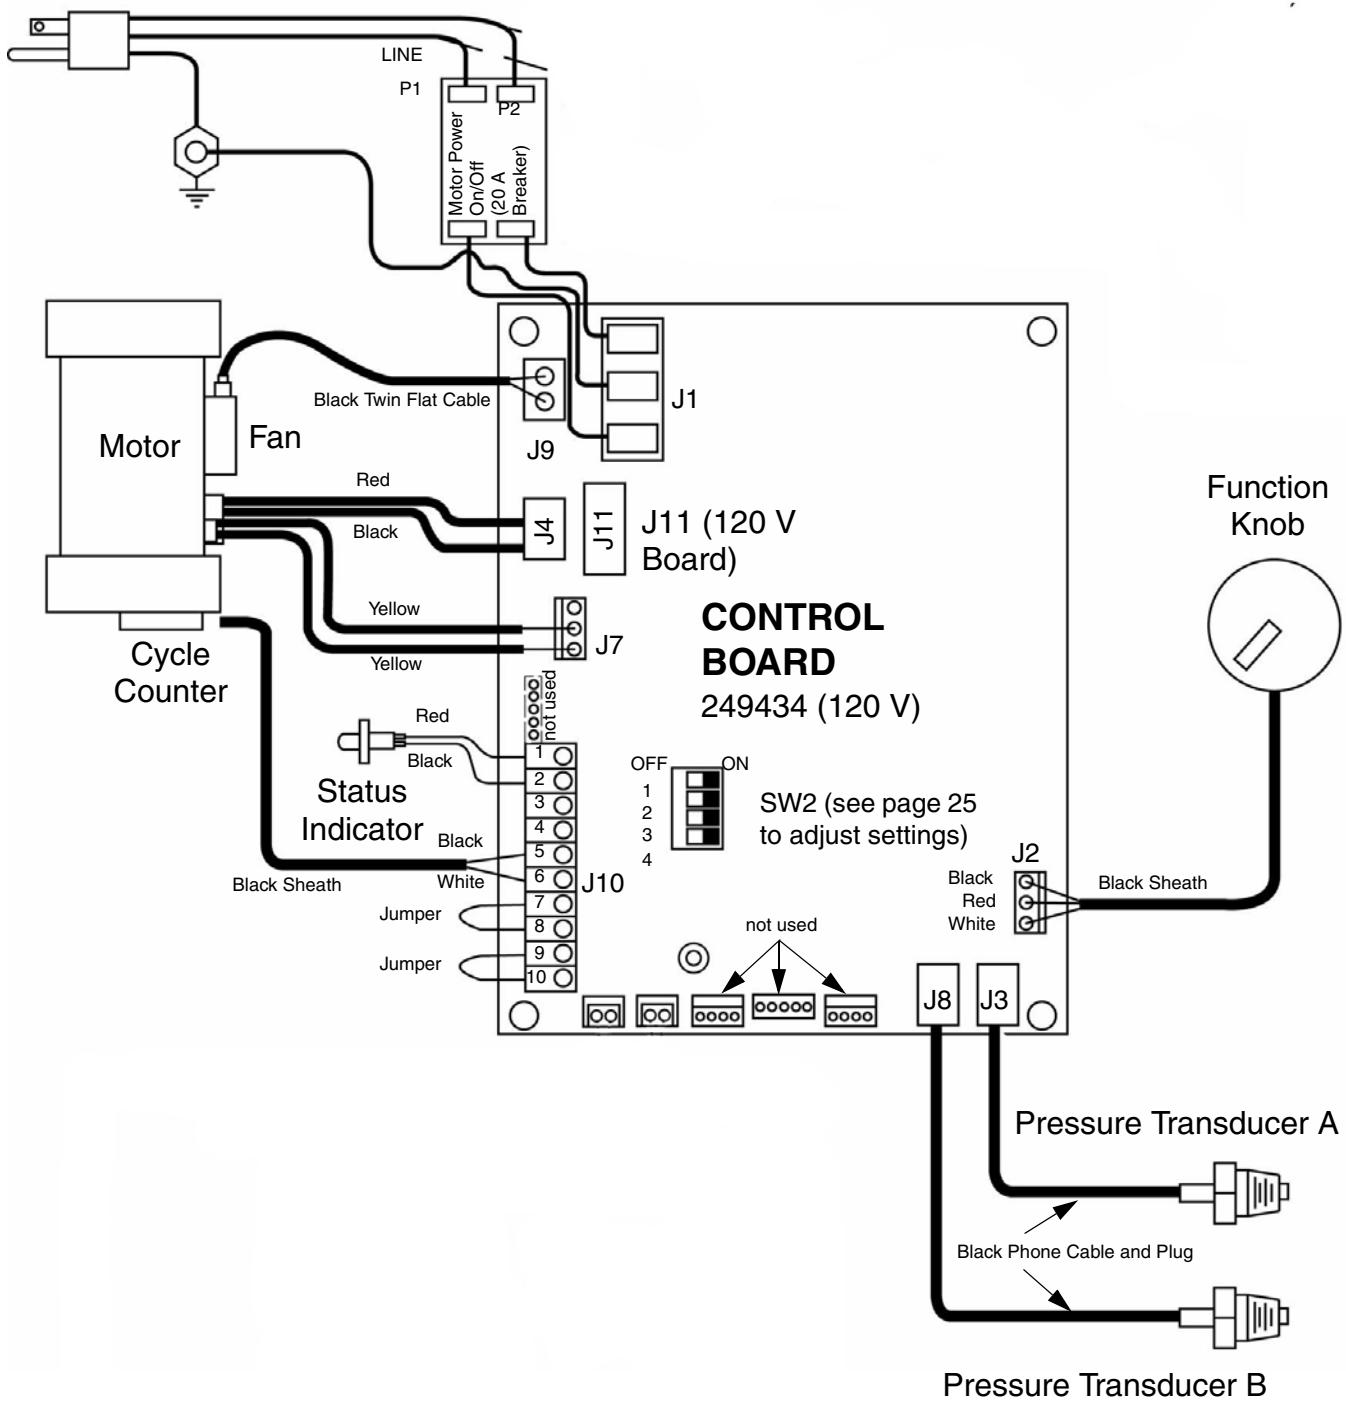

FIG. 58: Control Module Wiring Connections
NOTE: There is one red LED (D11) on the board. Power must be on to check. See FIG. 58 for location. Function is:
(see FIG. 58)**
4. Remove four screws (10) and control board cover (61) to expose the control board (12).
5. Disconnect transducer cables from J3 and J8 at board; see FIG. 58, page 34. Reverse A and B connections and check if status code follows the bad transducer, page 25.
7. Install new transducer (35) in manifold (33). Mark board end of cable with tape (red=transducer A, blue =transducer B).
8. Route cable under the electric motor and through grommet to control board (12).
9. Connect transducer cable at board; see FIG. 58, page 34.
1. Open recirculating valves, disconnect J4 or J11 from control board, see FIG. 58, page 34.
2. Place cart (1), with motor plate (8) installed, on bottom of the motor and fan. Feed motor cables through grommet.
3. Fasten motor to cart with four screws (10).
4. Fasten board to cart with seven screws (13). Connect all cables. See FIG. 58, page 34.
5. Install cover (61) with screws (10).
1. Disconnect fan cable (37) from fan (202). With Motor Power on, test cable connector for line voltage (120 V or 240 V).
2. *If voltage is correct*, fan is defective. Remove screws holding fan to shield (206). Install new fan in reverse order.
3. *If voltage is not correct*, check fan cable connection at J9 on control board; see FIG. 58, page 34.